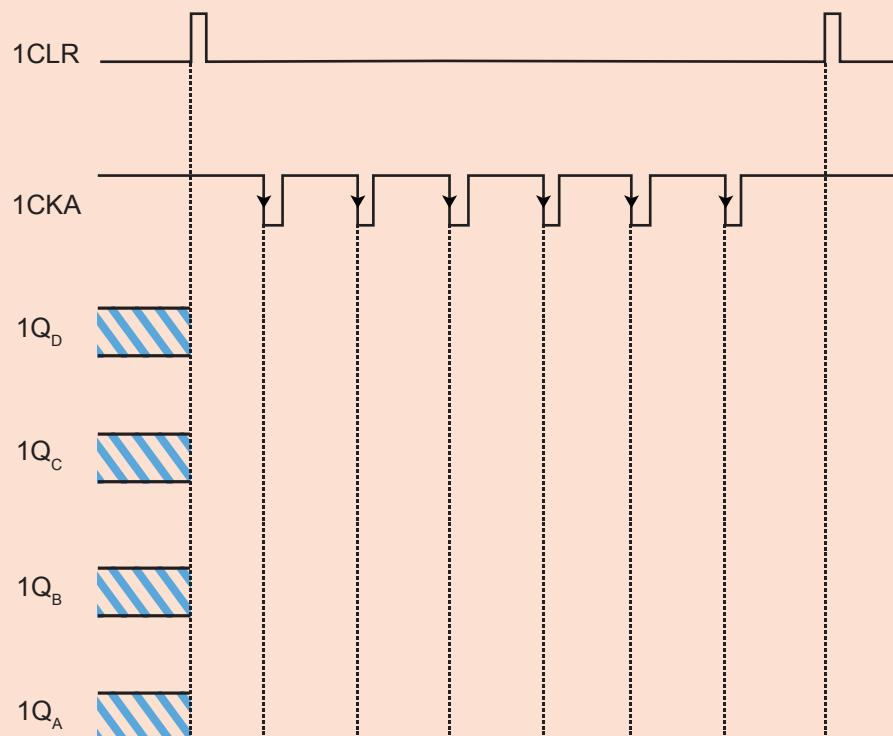

Figure 14.35
1. Complete the timing diagram of the 74LS390 counter IC in Figure 14.35.